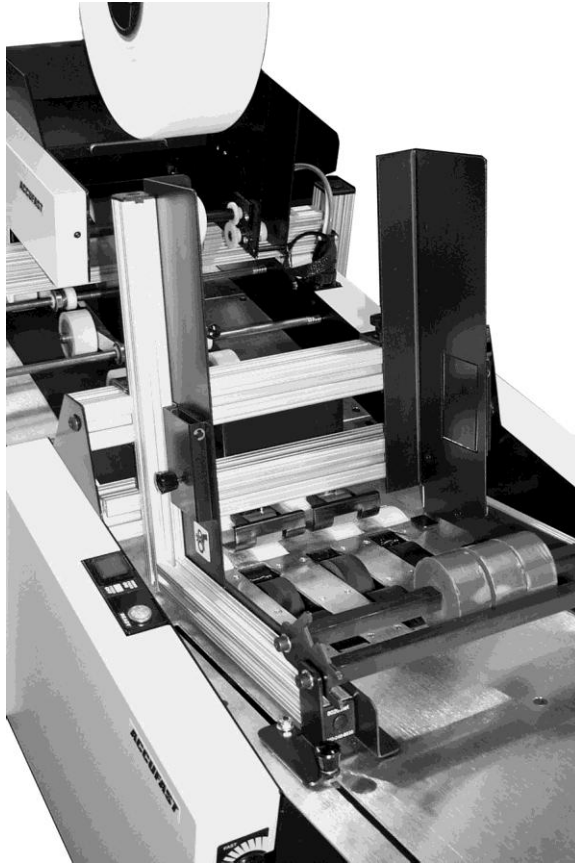

Figure 5.1 Feed Hopper
1. Set the width of the Product side guides in the Feed Hopper. Try to center the piece between the guides, and allow a slight bit of play between the guides and the pieces. (Refer to **Figure 5.1**)
3. Center the leading edge of the mail piece against the PAPER STOP. Rest the mail piece in the FEED TRAY. (Refer to **Figure 5.1**)